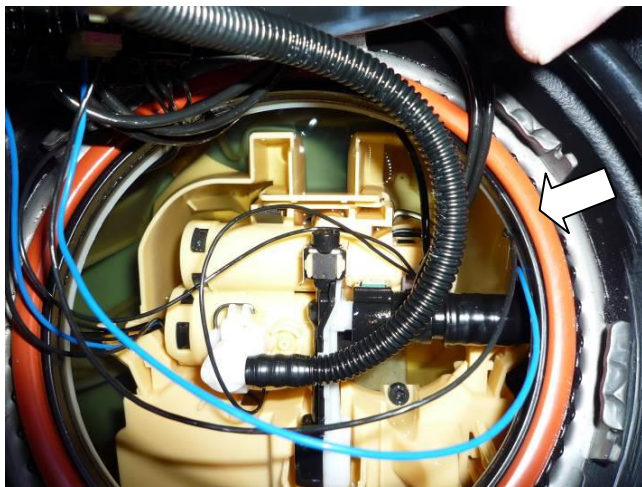

Figure 4
4. Check **all** visible electrical wires (Figure 4) on fuel tank and fuel feed module for damage.
5. Replace O-ring (arrow, Figure 4) on feed unit flange:
2. Replace O-ring (arrow, Figure 4) on feed unit flange: